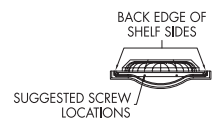

FIGURE 7
7. Apply the Niche apron to the bottom side of the shelf making sure the back edge of the apron is even with the back edge of the shelf sides that protrude past the Niche tub. Secure the Niche apron to the shelf using drywall screws at the locations suggested (SEE FIGURE 7). Drive the screws through the top of the shelf and into the apron. Make sure that the apron does not move when driving the screws. Wipe off all excess adhesive. Proceed to installation instructions on page 30.